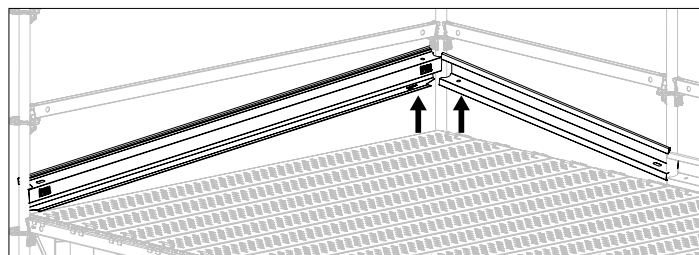

Fig. A12.04a
4. Lift both Toeboards UPY. (Fig. A12.04a)